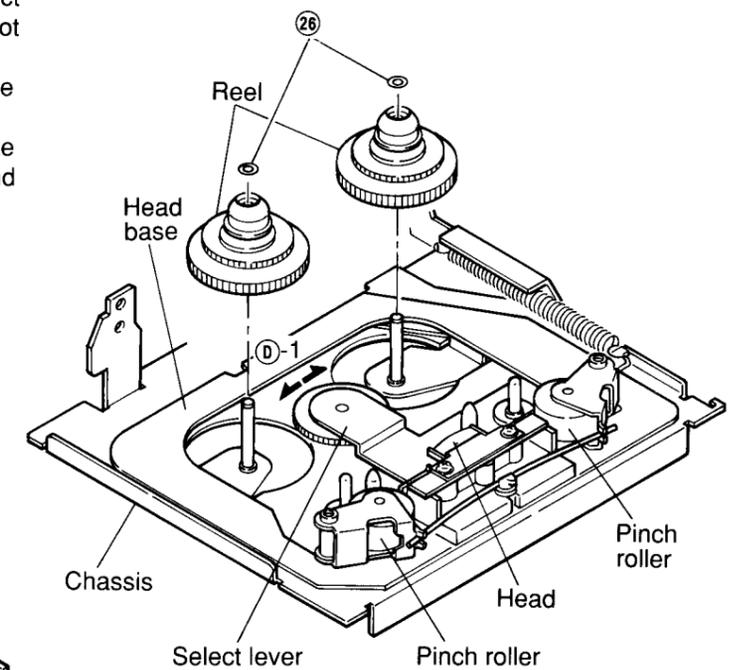

Figure 19
- (1) Remove M1.7 two lock washers ㉖ (Refer to figure 19).
- (2) Move the select lever in the direction marked ㉑-1 in the Figure and remove the reel by gripping the reel gear as shown in Figure 19.
- (3) After replacement, mount the new reels following the removal steps in the reverse order.
- (4) After mounting, check the tape speed and the wow and flutter with test tape MTT-111.